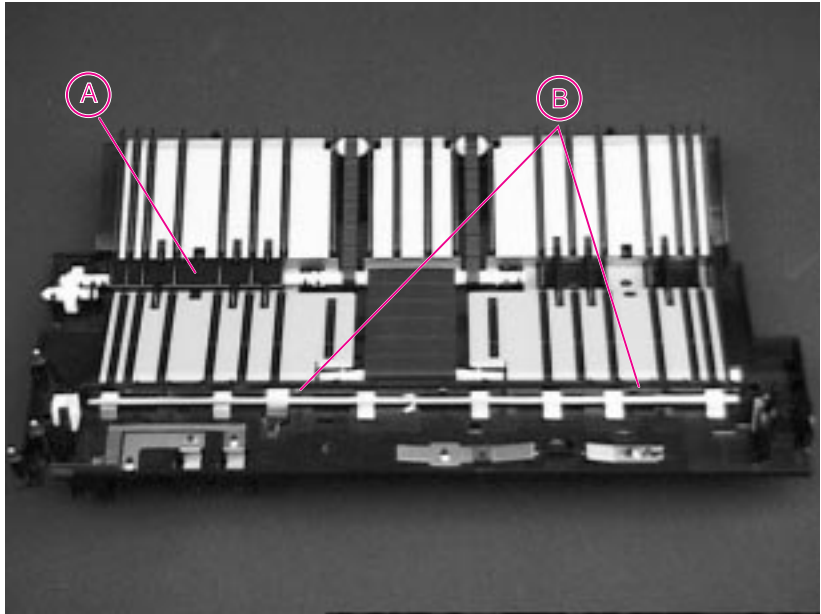

Figure 6-42 Paper Feed Belt Assembly (removed)
- 4 Remove the plastic guide (A) in Figure 6-42 and replace the belts if necessary. The guide snaps back in after belt replacement.